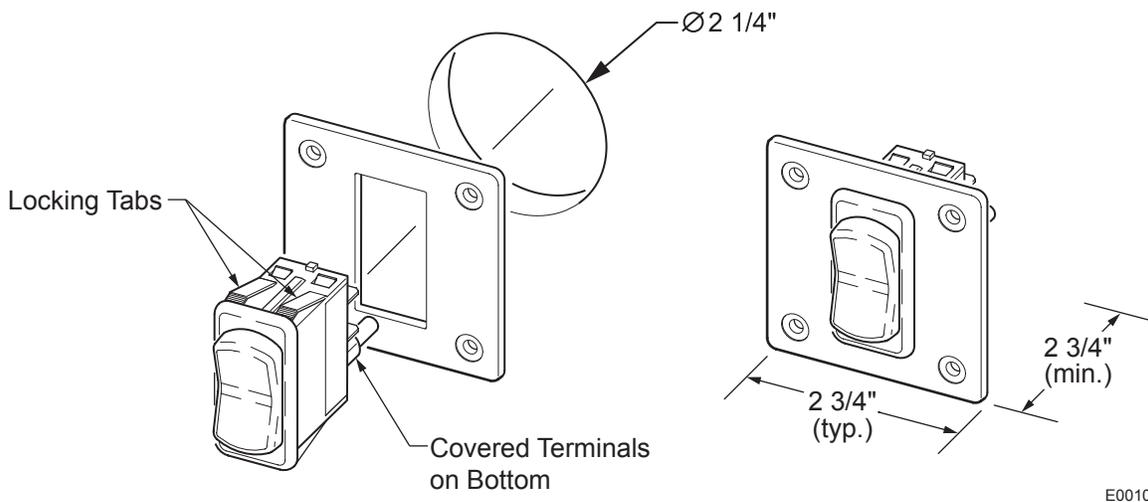

Figure 9. Switch Assembly.
7. Push the switch into the face plate until the tabs on the switch “click” into place behind the face plate. Ensure that the switch and face plate are oriented as shown. *(Refer to Figures 9 & 10)*